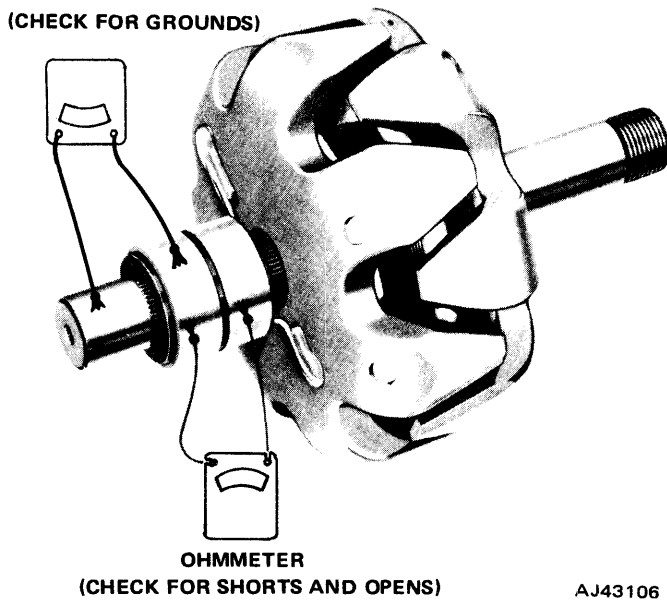

Fig. 3-29 Checking Rotor
(1) Check for ground by connecting a 110-volt test lamp or ohmmeter from either slip ring to rotor shaft or to rotor poles. If lamp lights or ohmmeter reading is low, the field winding is grounded (fig. 3-29).
(2) Check for opens by connecting the test lamp or ohmmeter to each slip ring. If lamp fails to light, or if the ohmmeter reading is high (infinity), the winding is open (fig. 3-29).
(3) Check winding for short circuits by connecting a battery and ammeter in series with two slip rings. The field current at 12 volts and 80°F should be between 4.0 to 4.5 amperes. Any ammeter reading above 4.5 amperes indicates shorted windings.